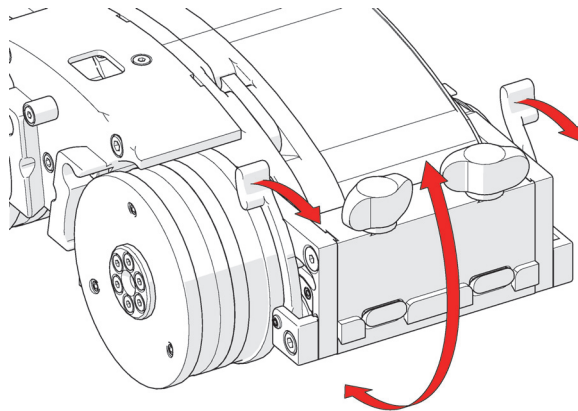

Figure 2-5 Swivel mount angle
4. To adjust the angle of the front mount, pull the levers to release the mount, swivel it to the desired angle, then push the levers back to lock the mount in place (see Figure 2-5 on page 53).